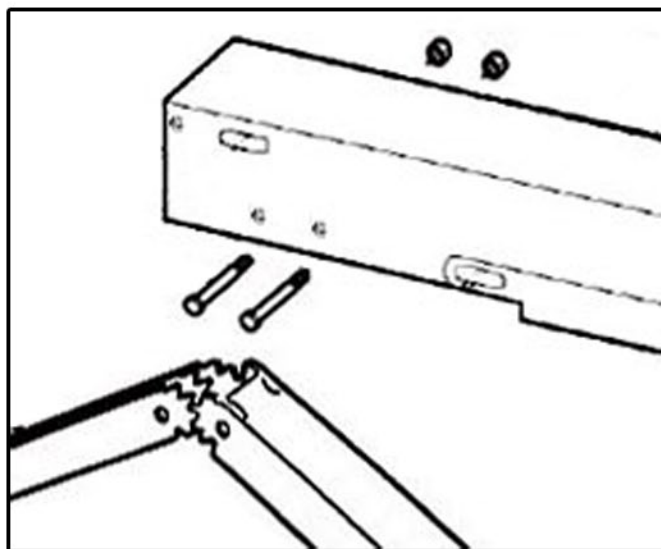

FIG. 1 Make sure the teeth on the jack arms are aligned to keep foot pad parallel with upper channel
- 2) Scissors mechanism must be inserted in and attached to the main channel using 2 each - 3/8" x 3 1/4" bolts and 3/8" lock nuts. Side holes toward the upper ends of the jack arms must be aligned with the lower holes in the ends of the main channel (see Fig. 1).